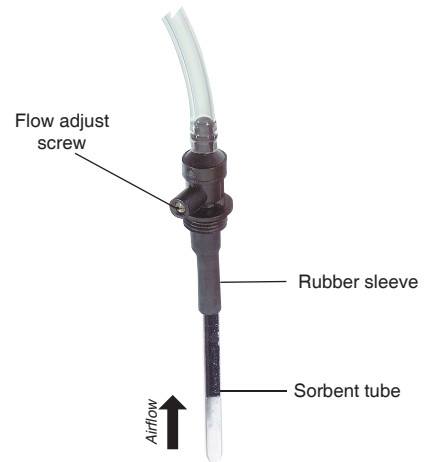

Figure 3. Single Adjustable Tube Holder with Sample Tube
Using Single Adjustable Tube Holder (Figure 3)
4. Insert an opened sorbent tube into the rubber sleeve (Figure 3) of the low flow tube holder with the arrow on the tube pointing toward the tube holder.
6. Using flexible tubing, connect the exposed end of the sorbent tube to the calibrator outlet (suction port). Loosen the brass flow adjust screw (Figure 3) on the tube holder. Adjust the flow rate by turning the flow adjust screw (**counterclockwise to increase, clockwise to decrease**) until the calibrator indicates the desired flow. Take a minimum of three readings and record the average flow rate, as per OSHA/NIOSH instructions.